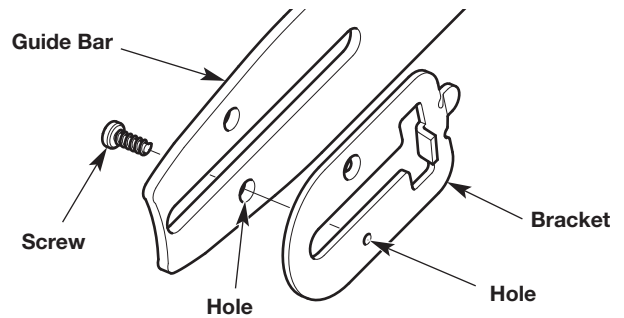

Fig. 43
5. Use a small Phillips screwdriver to remove the screw that holds the bracket onto the guide bar (Fig. 43).
1. Place the bracket onto the guide bar (Fig. 43). Align the hole on the bracket with the hole on the guide bar (Fig. 43). Insert the screw into the aligned holes (Fig. 43). Tighten the screw securely with a small Phillips screwdriver.